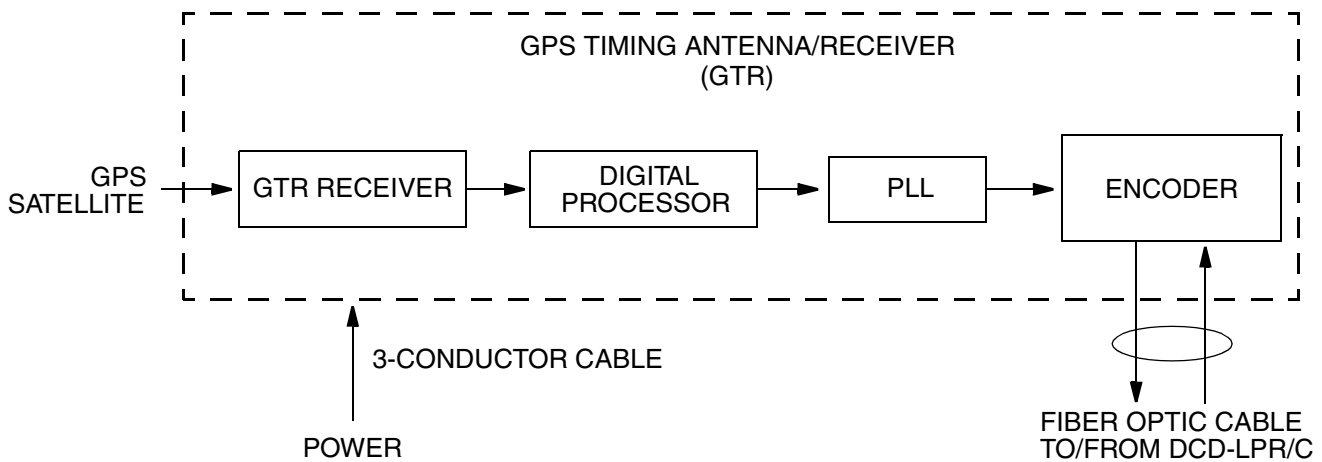

Figure 3. GTR Block Diagram
2.33 The GTR consists of four main sections (refer to Figure 3),